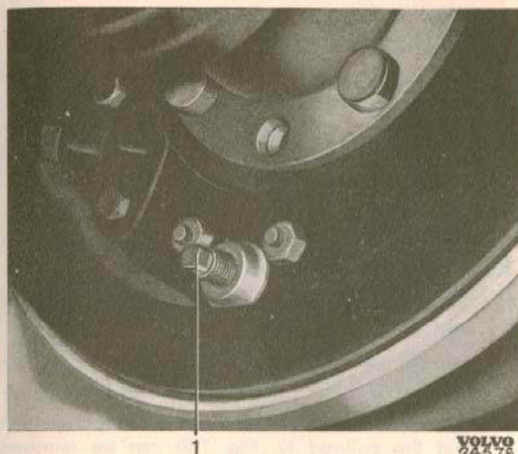

Fig. 7-29. Adjusting device for rear wheel brake unit
2. Turn the adjusting screw (1, Fig. 7-29) clockwise until the brake drum locks. Then turn back the screw until the drum can rotate freely.